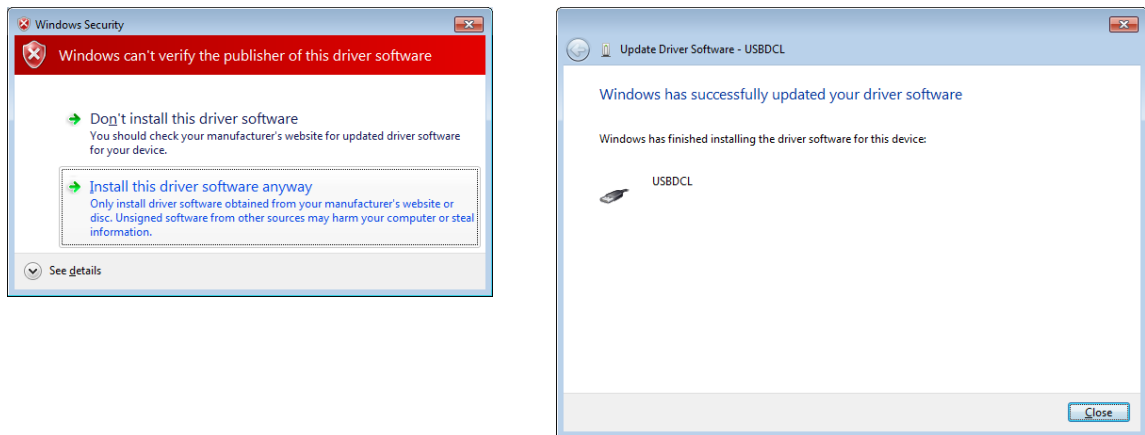

Figure 4.5.
3. In the dialog that open, the first image in Figure 4.5, choose 'Browse my computer for driver software'.
5. A warning dialog might pop-up, like the third image in Figure 4.5. Press 'Install this driver software anyway' if it shows up.